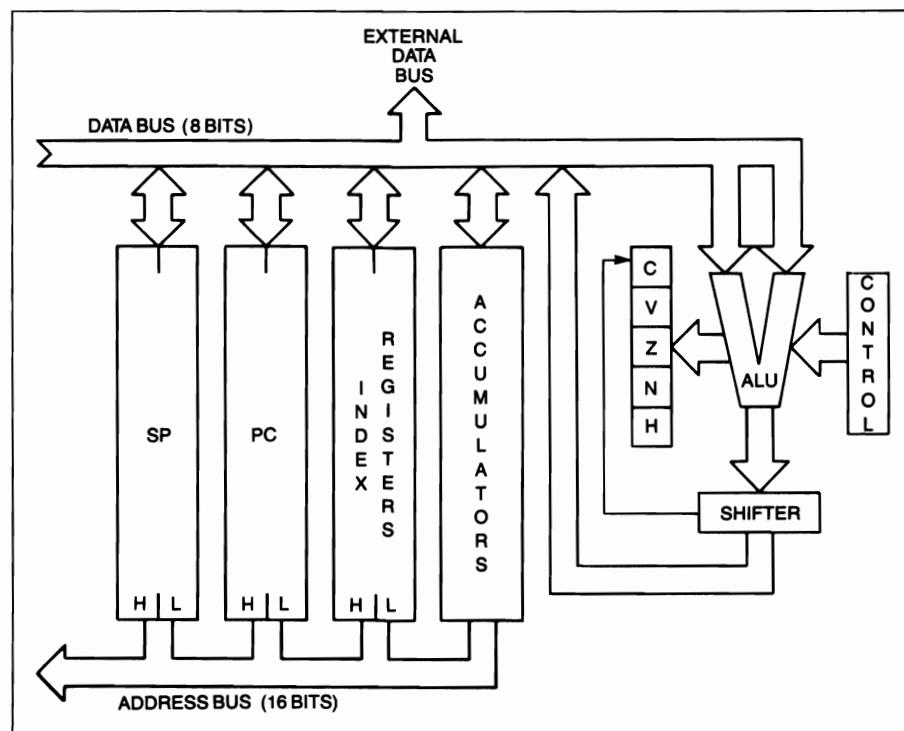
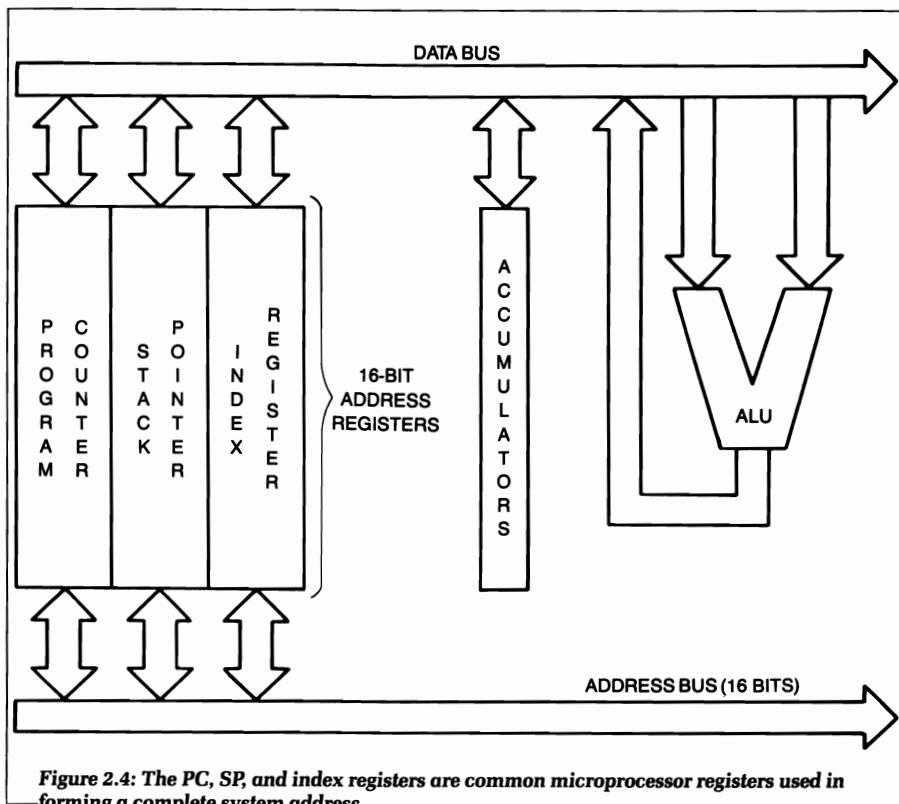
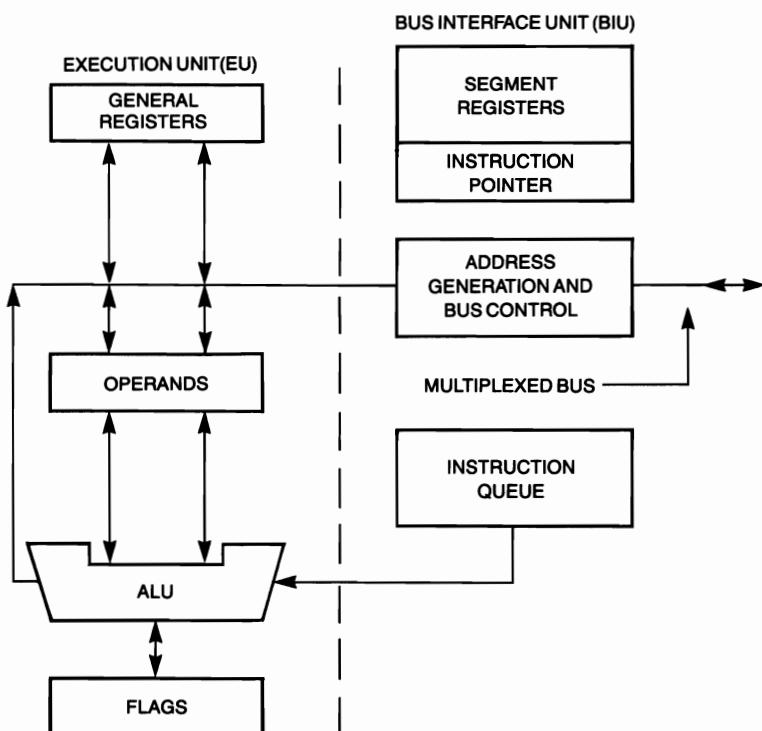

Figure 2.2: This diagram shows the general internal architecture of a "standard" microprocessor.
Figure 2.4: The PC, SP, and index registers are common microprocessor registers used in forming a complete system address.
Figure 2.8: A block diagram showing the two basic functional logic blocks inside the 8086/8088. These are the EU (execution unit) and BIU (bus interface unit).
Let us now examine Figure 2.2 and discuss the general internal architecture of a microprocessor. In addition, we will show you how the 8086 and 8088 implement their specific internal architectures, and we will point out the similarities and differences to the general case (shown in Figure 2.2).
Figure 2.2 shows a diagram of a standard architecture of a general microprocessor. Let's examine the different modules in this figure. The control box (on the right of the illustration) represents the control unit that synchronizes the system hardware and timing.
Referring back to Figure 2.2, the status or condition code register appears to the left of the ALU. The job of this register is to store the internal conditions of the microprocessor in codes. The condition codes are sometimes referred to as condition flags. An example of this is a bit that indicates when the result of an operation performed by the ALU leaves all accumulator bits equal to 0. When this occurs, the condition flag called the zero flag is set to true.
Moving to the left in Figure 2.2, we find the address registers. These registers are used for the storage of addresses. They are connected to the system address bus. Whenever the CPU executes a program, the address registers are combined logically to form a complete system address. Some of the power of a microprocessor comes from its ability to combine the address registers in special ways to form the system address present on the address bus. Chapter 3 describes in detail how the address registers of the 8086/8088 can be logically combined to form a single address. Figure 2.4 shows
three common address registers contained in a microprocessor: the program counter, the stack pointer, and the index register. Note that the registers also appear in Figure 2.2. Let's discuss them.
Indexing is a memory-addressing facility used to access blocks of data in the memory, using only a single instruction. This facility is not available in all microprocessors. It is, however, available with the 8086/8088. An index register typically contains a displacement, which is automatically added to a base value when forming an address. In short, indexing is used to access a word within a block of data. Now that we have discussed all the elements in Figure 2.2, let's move on and discuss the stack.
Figure 2.8 shows a functional block diagram of the 8086/8088. This diagram shows that there are two main functional logic blocks in the device: the BIU (bus interface unit) and the EU (execution unit). In the general block diagram back in Figure 2.2, both of these functions were grouped into a single control block. Let us examine what they do.
The other functional hardware section of the 8086/8088 shown in Figure 2.8 is the execution unit. This unit contains a 16-bit arithmetic logic unit. It maintains the condition flags of the CPU. The EU also manipulates the general registers of the CPU. All registers in the EU are 16 bits wide. This is true of both the 8086 and 8088.
In the description of the general block diagram of a microprocessor shown in Figure 2.2, we discussed the operation of the program counter. In the 8086/8088 the program counter is replaced by the instruction pointer (IP) register. The IP register is updated by the BIU to point to the address of the next instruction. Programs do not have direct access to the instruction pointer; but, during execution of a program, the IP can be modified or saved and restored from the stack.